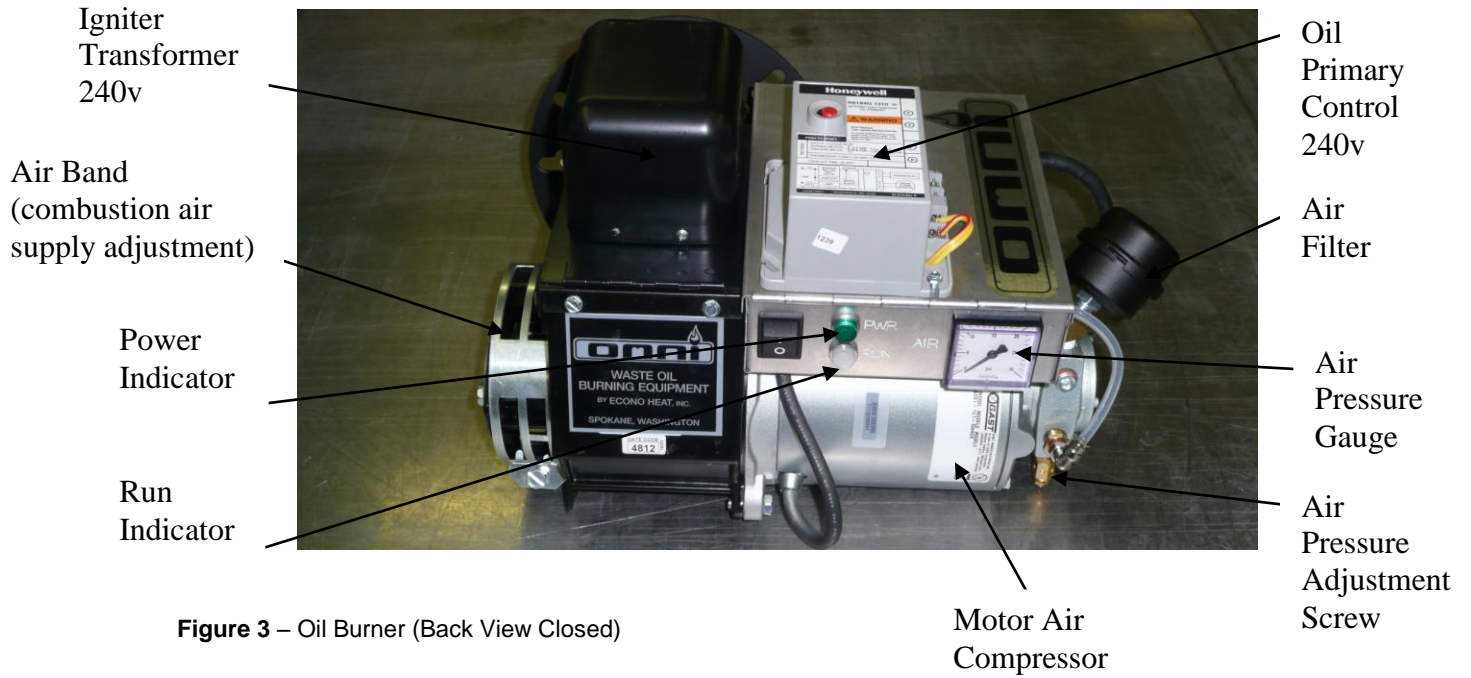
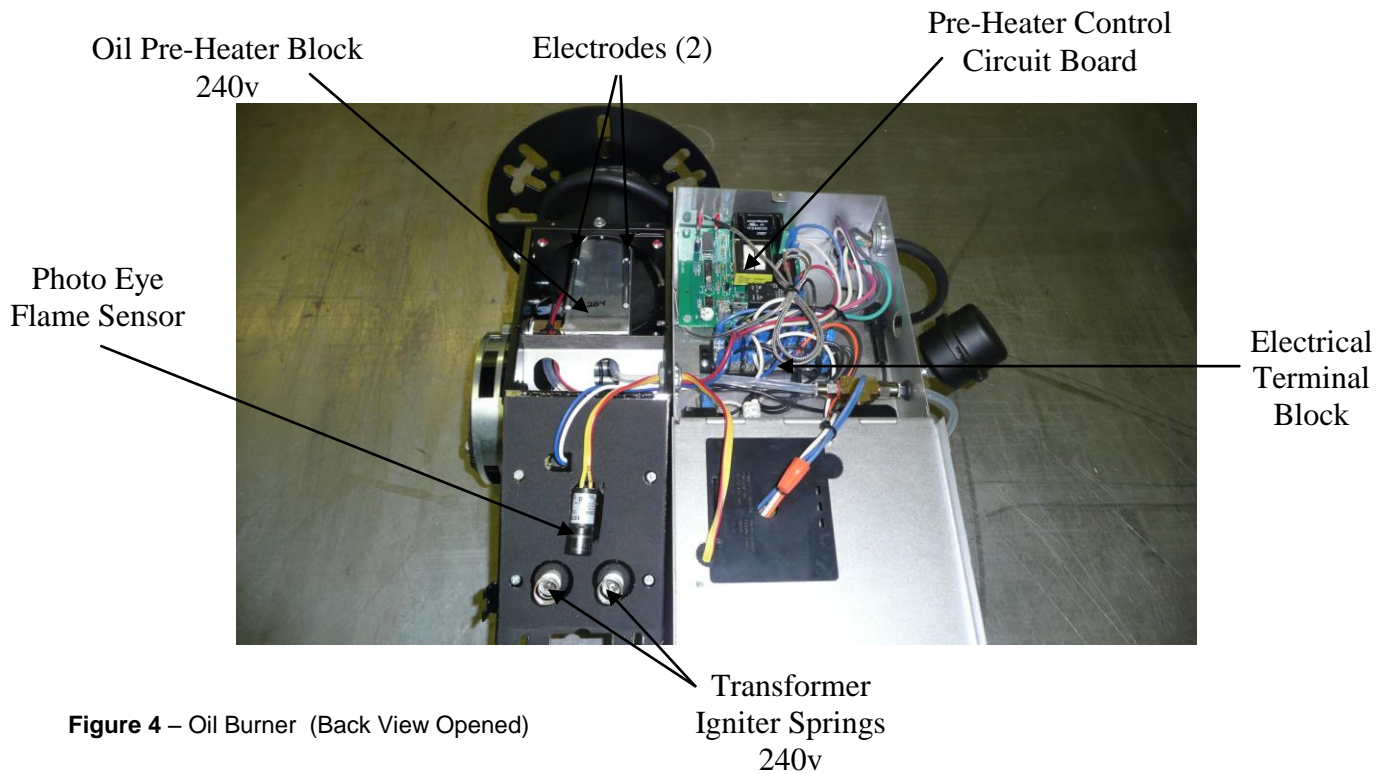
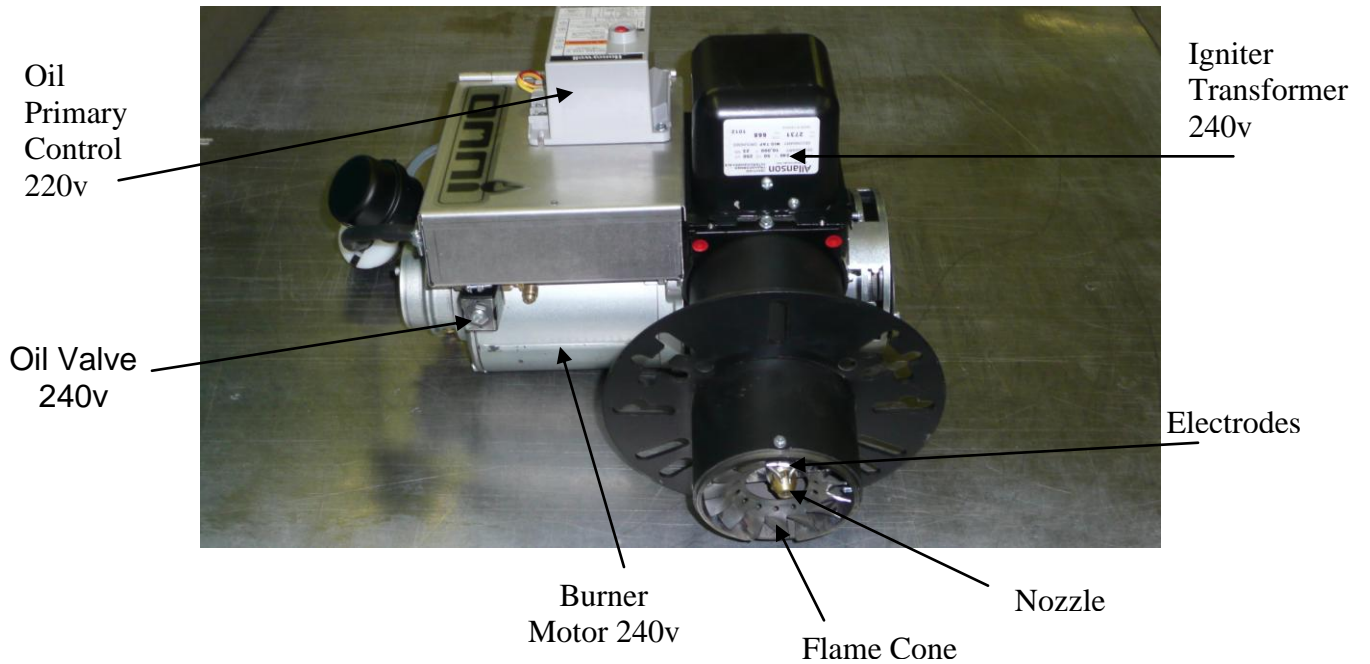

Figure 3 – Oil Burner (Back View Closed)
Figure 4 – Oil Burner (Back View Opened)
Figure 5 – Oil Burner (Front View)
3. Wire low voltage thermostat into “T” marked terminals on oil primary control on burner. (Box on burner gun assembly with red reset button). (figure 3).
Omni's patented burner technology improves the efficiency of the oil burn process by continuous stabilization of the oil viscosity. Optimum atomization (spray) is accomplished by precisely pre-heating the oil and air prior to introduction to the combustion chamber. The waste oil enters into the Oil Pre-Heater Block (figure 4) and is pre-heated to operating thermo setpoint, then compressed air from the air compressor (figure 3) is mixed with the oil prior to spraying out the nozzle similar to fuel injection, by breaking up the oil droplets into a finer mist or spray (atomization). Electrodes mounted just above the nozzle (figure 5) provides continuous electrical arc across electrode to electrode igniting the fine oil mist as it sprays out of the nozzle. Once ignited the flame is forced into a swirl caused by the burners blower and specially designed flame cone (figure 5) providing a very efficient and thorough burn of the waste oil.
- **Igniter Transformer:** (figure 3) Supplies high voltage to the electrodes generating electrical arc igniting the oil.
- **Oil Valve:** (figure 5) energizes when burner is running and de-energizes when burner is not running eliminating bleed back of oil out of the Pre-heater block.
- **Air Band:** (figure 3) Adjusts amount of air introduced into the combustion chamber. Air band is adjusted at the factory for optimum performance, approx. ½ to ¾ inch open. **NO FIELD ADJUSTMENT REQUIRED** unless in high altitudes application where minor adjustment may be required.
- **Oil Primary Control:** (figure 3) Controls the oil burner ignition. Checks for flame in the combustion chamber, if no flame is detected within 45 seconds, the oil primary will shutdown the oil burner. To restart the unit, reset the red button on the oil primary.
- **Oil Pre-Heater Block:** (figure 4) Pre-heats the oil and air before entering combustion chamber.
- **Photo Eye:** (figure 4) Senses flame in combustion chamber and signals oil primary when no flame is present.
- **Igniter Springs:** (figure 4) Transfers the high voltage from the igniter transformer to the electrodes (when door is closed)
- **Air Pressure Gauge:** (figure 3) Displays air pressure supplied by onboard air compressor.
- **Air Compressor:** (figure 3) Supplies air used within pre-heater block to aid in atomization of the oil.
- **Air Muffler/Filter:** (figure 3) Filters air and muffles the sound generated by the compressor.
- **Pre-Heater Control Circuit Board:** (figure 4) Precisely controls temperature of the Oil Pre-Heater Block and controls safety feature of not allowing burner to energize until oil has established operating thermo setpoint or shutdown burner if Pre-Heater Block temperature falls below shutdown thermo setpoint.
- **Electrodes:** (figure 4 and 5) Provides continuous high voltage electrical arc from electrode to electrode igniting the waste oil as it is being sprayed out of the nozzle.
- **Nozzle:** (figure 5) Low-pressure nozzle for oil spray pattern.
- **Flame Cone:** (figure 5) Specially engineered flame cone forces the flame into a swirl pattern improving the burn thoroughness.
- **Burner Motor:** (figure 5) Multitask motor turns the burner blower and integrated air compressor.
- **Air Pressure Adjuster:** (figure 3) Adjusts the air pressure going to the pre-heater block. Should be adjusted between 12 PSI and 13PSI as indicated on the Air Pressure Gauge on the burner for thorough burn of the waste oil.
- **Power Indicator:** (figure 3) Indicates when power is present at the burner.
- **Run Indicator:** (figure 3) Indicates that the burner is ready for operation after the initial pre-heat time of approx. 5 minutes from initial power up.
4. Making sure the thermostat is turned off, apply power to the burner. Switch burner main power switch to ON position. After allowing the oil pre-heater time to establish temperature setpoint, approximately 5 minutes. Jump the "T" terminals on the Oil Primary Control (figure 3). Once the burner is running, temporarily jump the "F" terminals on the Oil Primary. This will allow the burner to run during the pump priming process.
7. Combustion air band (figure 3) should be open approximately 1/2" or until flame is clear yellow, not orange. Opening the air band too far may cause delayed in starting or even prevent the flame from starting.
11. Making sure the thermostat is turned off, apply power to the burner. Switch burner main power switch to ON position. After allowing the oil pre-heater time to establish temperature setpoint, approximately 5 minutes. Jump the "T" terminals on the Oil Primary Control (figure 3). Once the burner is running, temporarily jump the "F" terminals on the Oil Primary. This will allow the burner to run during the pump priming process.
14. Combustion air band (figure 3) should be open approximately 1/2" or until flame is clear yellow, not orange. Opening the air band too far may cause delayed in starting or even prevent the flame from starting.
--- Swing out burner assembly clean out door and clean flame cone. (figure 5 and figure 8).
--- Replace nozzle every 3-5 years depending on usage (figure 5, 9, 11). Will lose efficiency due to erosion. This can be accessed by swinging burner clean out door open. (figure 8)
Electrodes are adjusted at time of manufacture. However, they should be check periodically and at time of installation, to be sure they are set as noted in the following dimensional drawing. Swing burner clean out door back for inspection. (figure 5, 10, and 11)